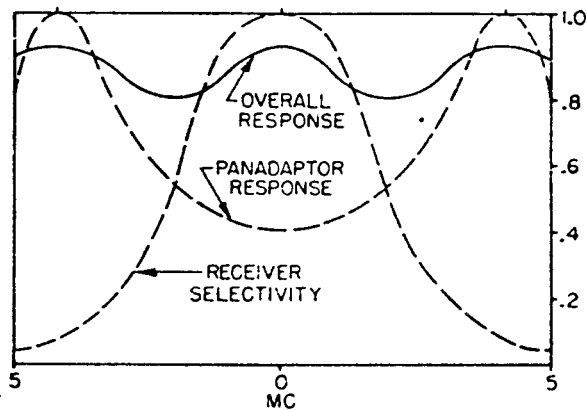

Figure IV-2. Overall Response of Panadaptor and Receiver.
- a. R-f Bandpass Amplifier, V2 (12AT7): The function of this stage is to compensate for the selectivity of the r-f amplifier and mixer stages of the receiver to enable presentation of a broad band of signals i. e. 100KC, 200 KC or 1000 KC. To do this it must provide greater gain in the outer portions of the displayed band. Compensation at most can only be partial since receiver selectivity will vary throughout the tuning range of the receiver. At the high end of the range there may be over-compensation. At the low end compensation may be insufficient, thus limiting the observable bandwidth. At some receiver frequency the compensation will be optimum. This is illustrated in Figure IV-2.